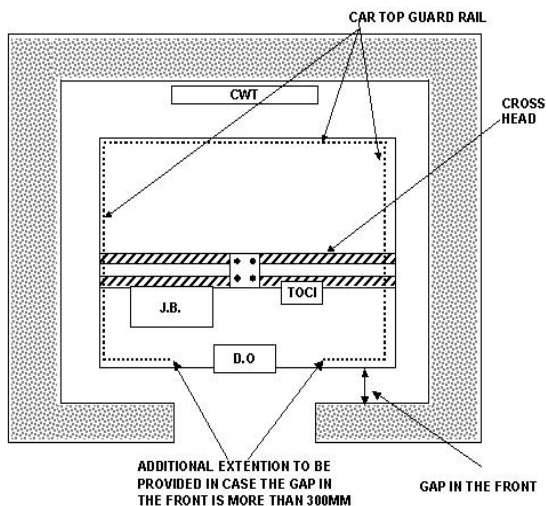

FIG. 9 GAP IN FRONT SIDE
9.5.2.7 If the gap between the front edge of car top and the hoistway wall on the landing gate side is more than 300 mm (Refer to Fig. 9), then the guard rail should be shaped such a way that it guards this gap but keeps landing gate access open.